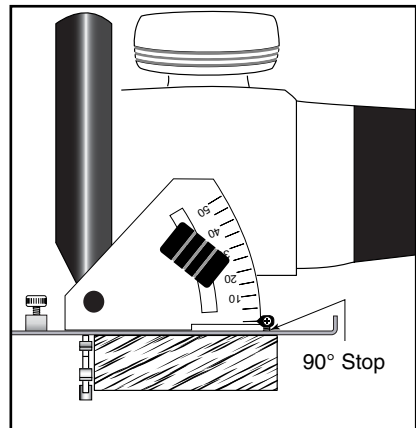

Fig 8. Base angle adjustment.
7. The arrow in **Fig.8** is pointing to a screw that operates as a positive 90° stop. It is secured with a jam nut. Loosen the nut and turn the screw so that it contacts the base. *Do Not over tighten.* Over tightening this screw will cause the saw base to warp and will upset the angle of the blade.